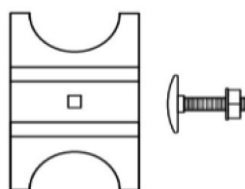

Figure 5.
- The tubes are secured with a tube clamp (Figure 5).